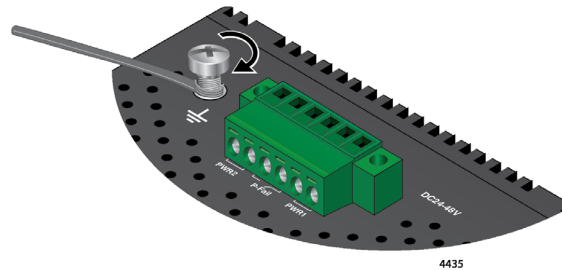

Figure 34. Wrap Grounding Wire Around Ground Screw
3. Wrap the grounding wire clockwise around the base of the grounding screw beneath the star-lock washer provided. Refer to Figure 34.